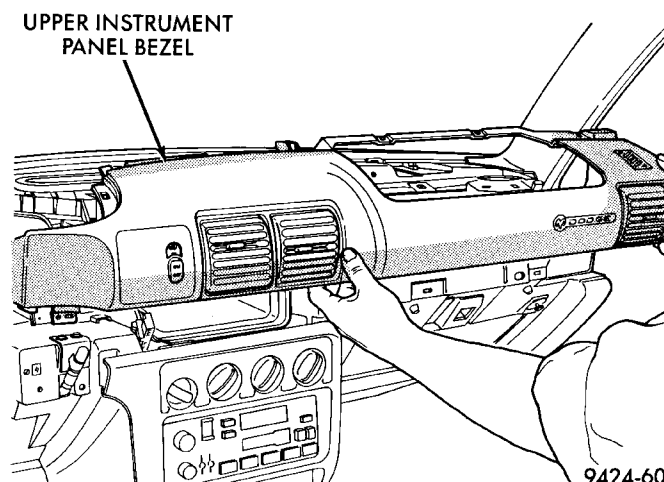

Fig. 38 Bezel Removal
- (1) Remove instrument panel upper cowl panel.
- (2) Remove right side upper instrument panel bezel (Fig. 38).